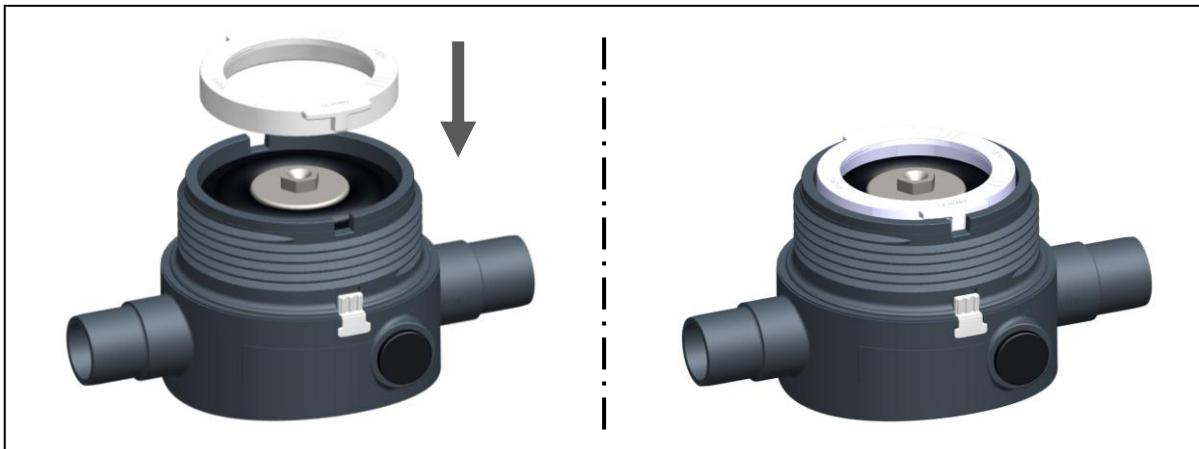

Fig. 13
- Place the retaining ring. During this, ensure that both projections of the retaining ring lie in the notches of the base part, see Fig. 13